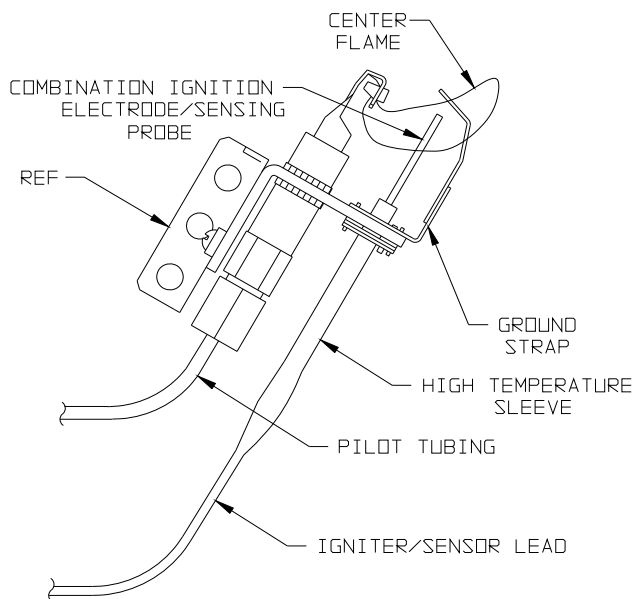

Figure 11-6: LP Gas Pilot Flame
LP Gas Only. The pilot burner produces three (3) flames. The center flame should be steady, medium hard blue enveloping 3/8 to 1/2 inch of sensing probe. See Figure 11-6.